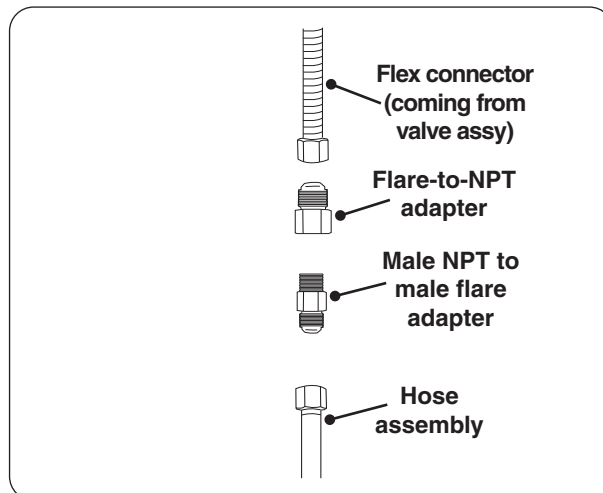

Fig. 26-1 Connecting flex to hose assy
1. Connect the L.P. regulator hose assembly (not included) to the flex connector that is coming off of the valve assembly (see Fig. 26-1).